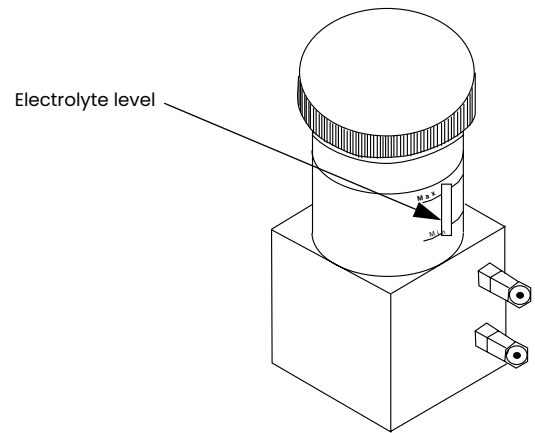

Figure 7: Delta F oxygen cell electrolyte level
The *Delta F oxygen cell* is available with various types of mounting enclosures. However, the cell itself will always look like the one shown in *figure 7* below.
3. Using the min/max window on the oxygen cell, check the electrolyte level. The electrolyte should cover about 60% of the window (see *figure 7* on page 12). The cell is now ready to be connected to the gas line.